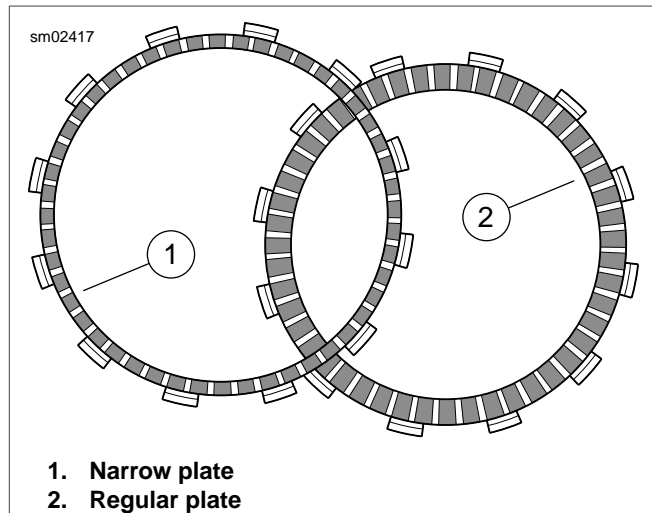

Figure 5-31. Friction Plates
1. See Figure 5-31. Install the narrow friction plate on the clutch hub. Engage tabs on plate with slots in clutch shell.